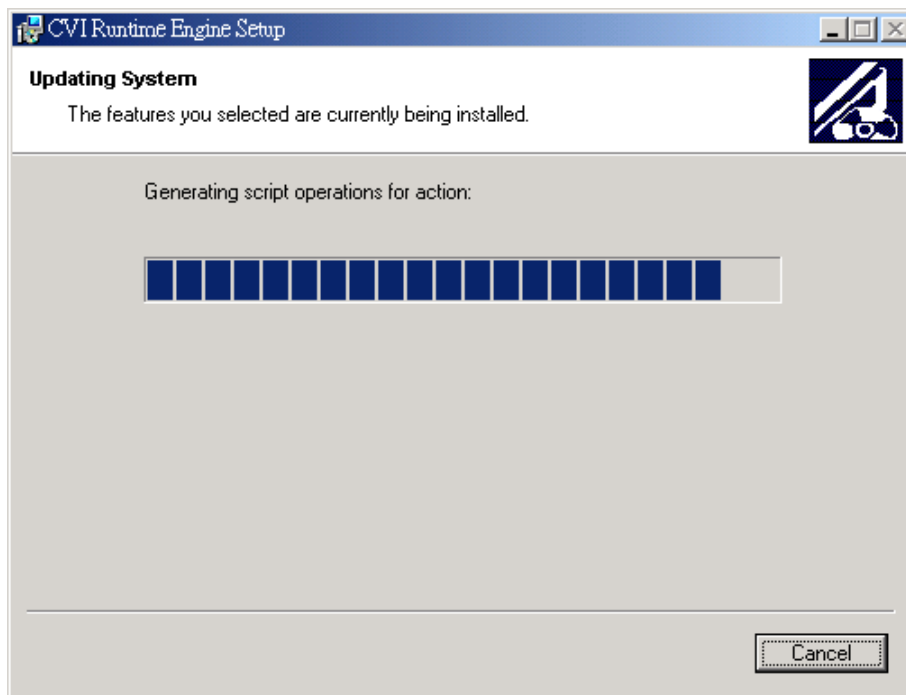

Figure 2-25 NI CVI Installation Progress
17. Figure 2-25 shows the installation progress of NI CVI and if any mistake is found, click **Cancel** to stop the installation.